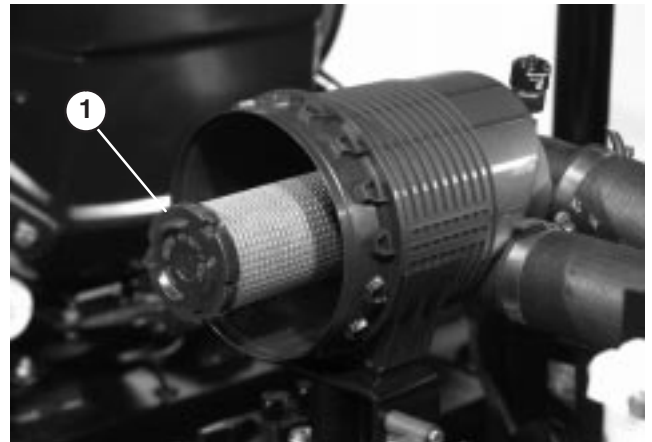

Figure 44
2. Gently slide primary filter (Fig. 43) out of air cleaner body to reduce the amount of dust dislodged. Avoid knocking filter against air cleaner body. **Do not remove safety filter (Fig. 44).**